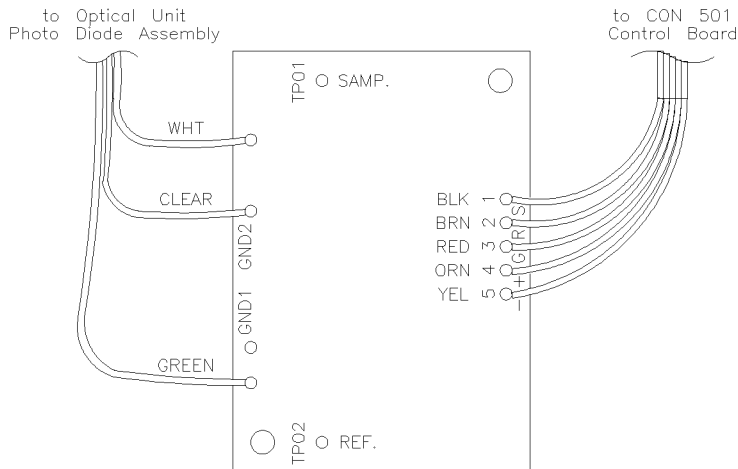

Figure 3-2. Preamplifier Board
7. Attach the replacement Preamplifier board to the support plate. Carefully solder the three wires of the photodiode cable to the new Preamplifier board. If needed, refer to Figure 3-2.